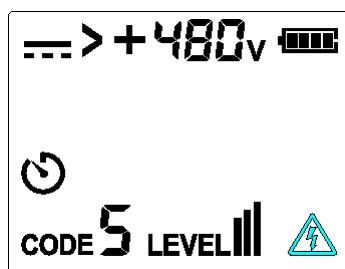

Figure 9.1g DC voltage (>480V) measurement
8. When the voltage is 8 V ~ 480 V DC/AC (50/60 Hz). If the measured voltage is greater than 480 V, then display is as shown in Figures 9.1g, 9.1h and 9.1i.